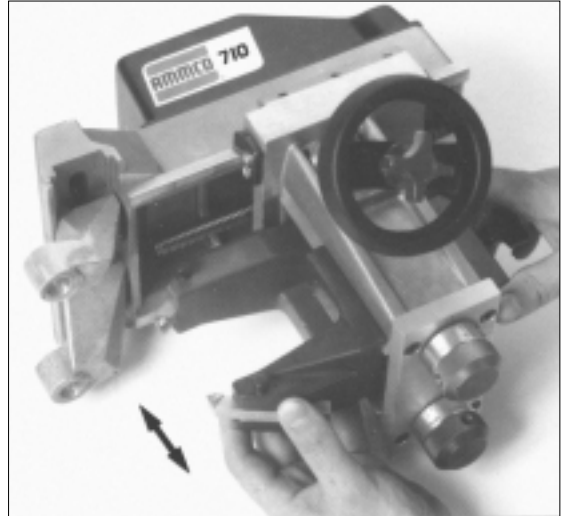

Figure 20
5. Push the far end of the cutter back and forth. Check to see that no rocking motion exists, Fig. 20. Re-adjust set screws if required.